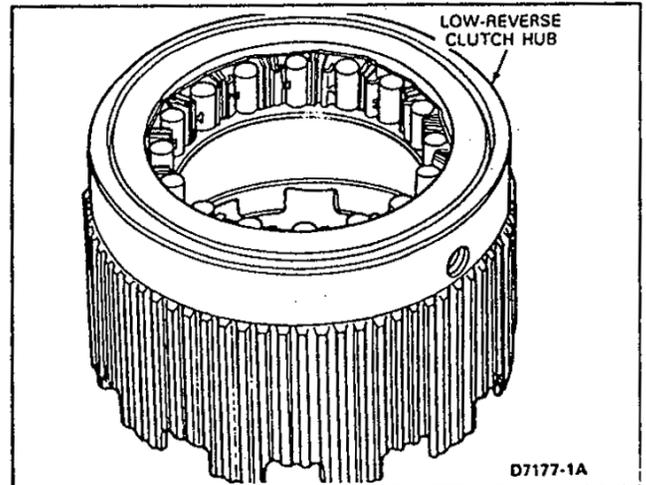

FIG. 57 One-Way Clutch Installed
- Place the low-reverse clutch hub on the bench with the forward end down (Fig. 57).